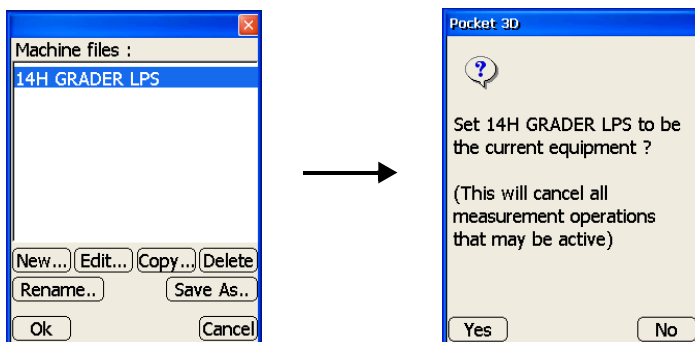

Figure 2-57. Select Equipment Configuration
7. On the **Equipment configuration** dialog box, select the new or edited configuration file, and press **Ok** to continue (Figure 2-57).
8. At the **verification** screen, press **Yes** to apply the configuration file to be the current equipment (Figure 2-57).